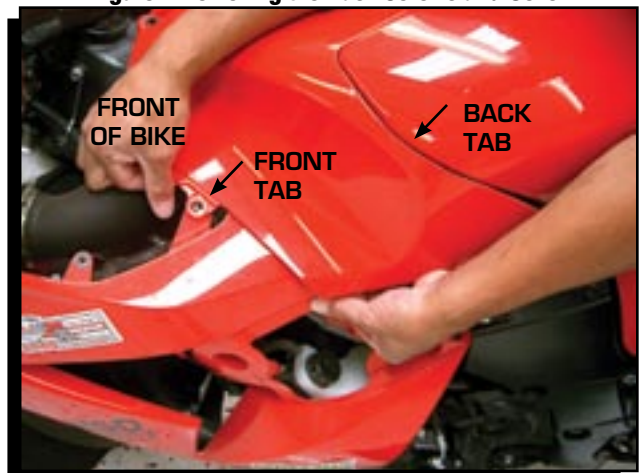

Figure 2 Removing the Tank Cover.
3. Use care to remove the tank cover. Carefully lift the front tabs on both sides and slide the cover forward. Once the tabs have cleared, lift the cover off (Figure 2).